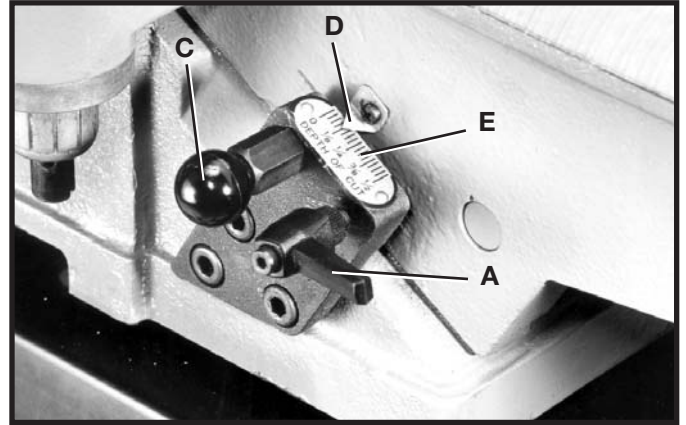

Fig. 36
2. **NOTE:** When raising or lowering the infeed table a plunger located on other end of the index stop (C) Fig. 36, automatically stops the table at 1/8 inch depth of cut. To move the table past this point it is necessary to pull out index stop (C) and move the table up or down. **IMPORTANT:** Always make sure table lockhandle (A) is tightened before operation. The table lockhandle (A) is spring-loaded and can be repositioned by pulling out the handle and repositioning it on the serrated nut located under the handle.
3. The depth of cut of the infeed table (position of table in relationship with the cutting circle) can be read with the pointer (D) Fig. 36, and scale (E). Maximum table depth adjustment with this 6" jointer is 1/2 inch.